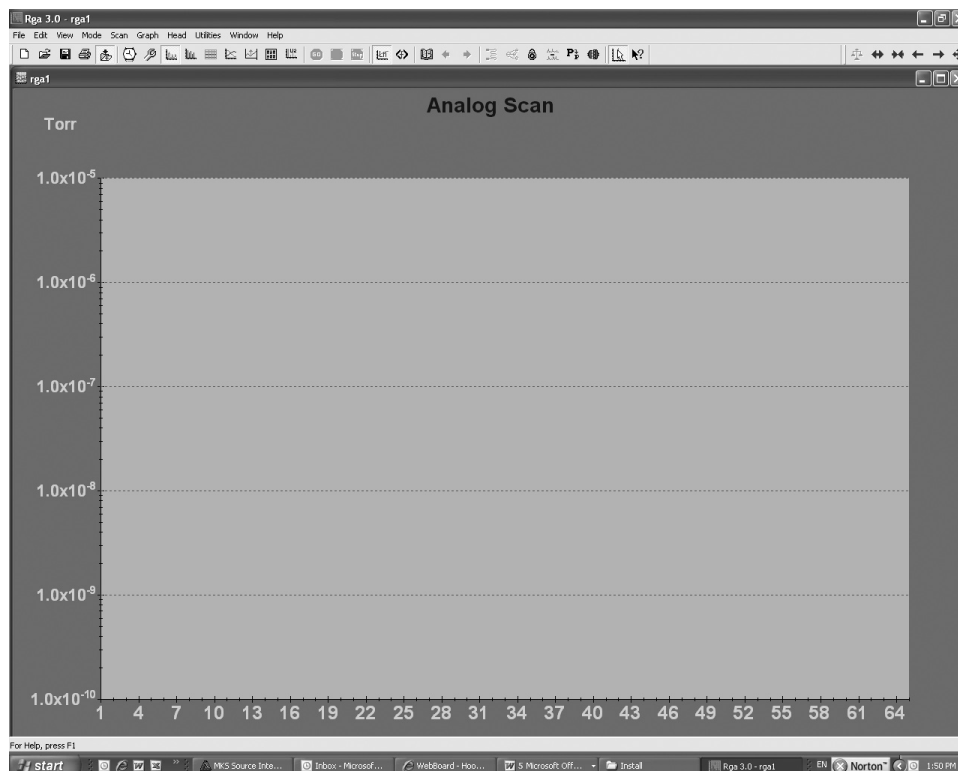

Fig. 2-22. Screenshot of RGA software.
- Click 'Launch RGA'. You should see the same screen as Fig. 2-22.